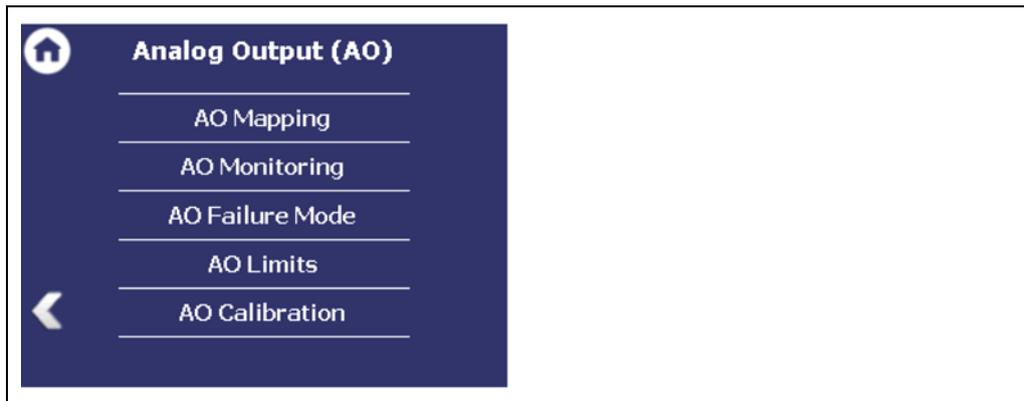

Fig. 92 Menu "Analog Output (AO)"
If "AO Monitoring Enabled" is activated (Fig. 92, item 1), the current output will be monitored. It is continuously monitored whether the current value flowing in the current loop is correct.